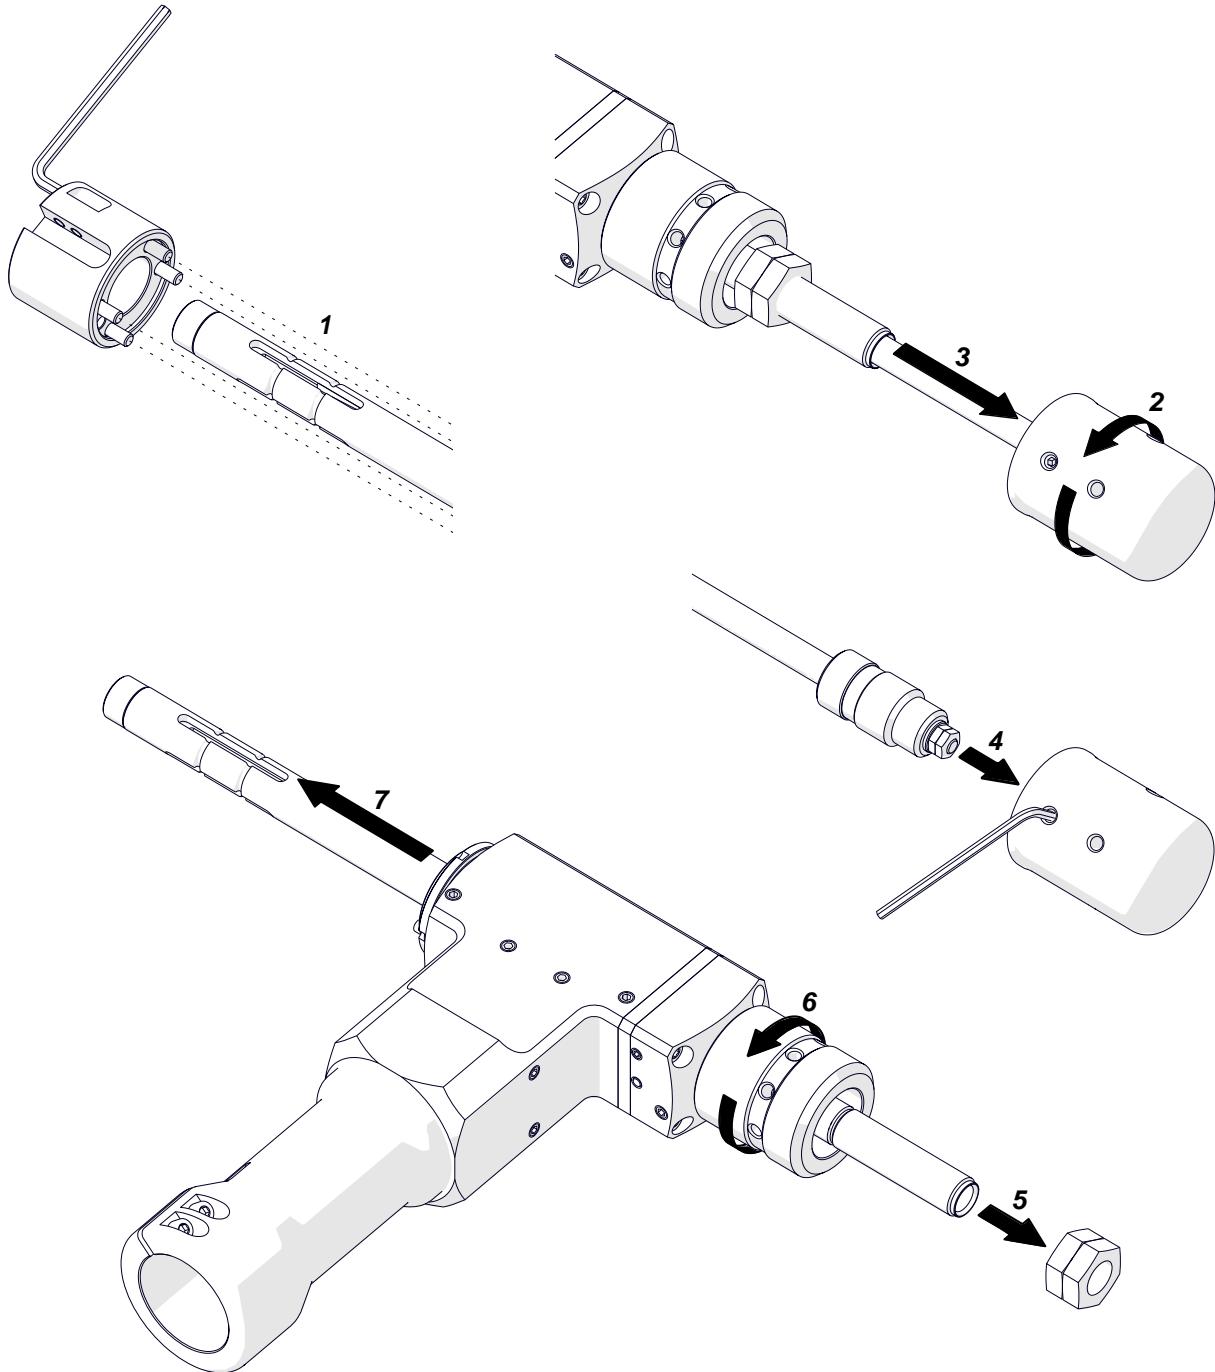

Fig. 8. Removing the mandrel
To install, use the 4 mm hex wrench and unscrew the tool bit holder (1, Fig. 8). Then, remove the clamping knob (2) with the needle (3). Use the 3 mm hex wrench to loosen the screw and remove the knob from the needle (4). Remove the nuts from the mandrel (5), and then rotate the knob (6) to remove the mandrel (7).